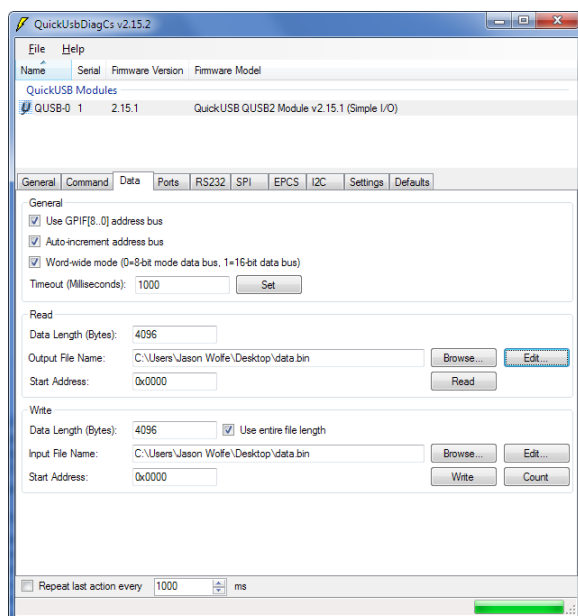

Figure 7 – QuickUSB Diagnostics Data Tab for Loop Back Test
- a. Navigate to the “Data” tab. Check the “Word-wide mode” checkbox if it is not already checked (see Figure 7). This will enable the QuickUSB Module to be in Word-Wide mode and use a 16-bit data bus. Note that the GPIF address bus is not used in Slave FIFO mode.